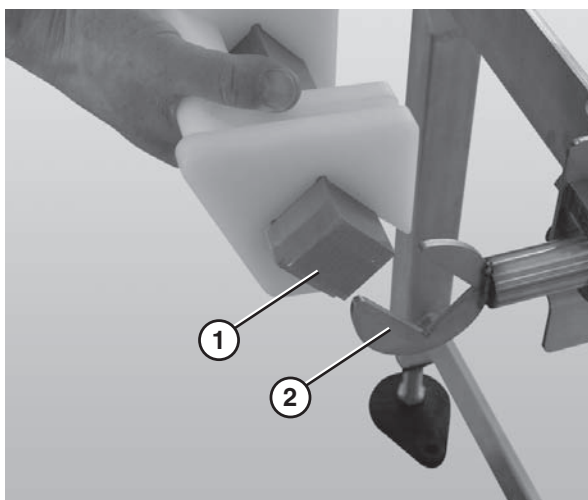

Figure 25
4. Attach the nose bar transfer post (**Figure 25, item 1**) to the nose bar idler shaft hands (**Figure 25, item 2**).